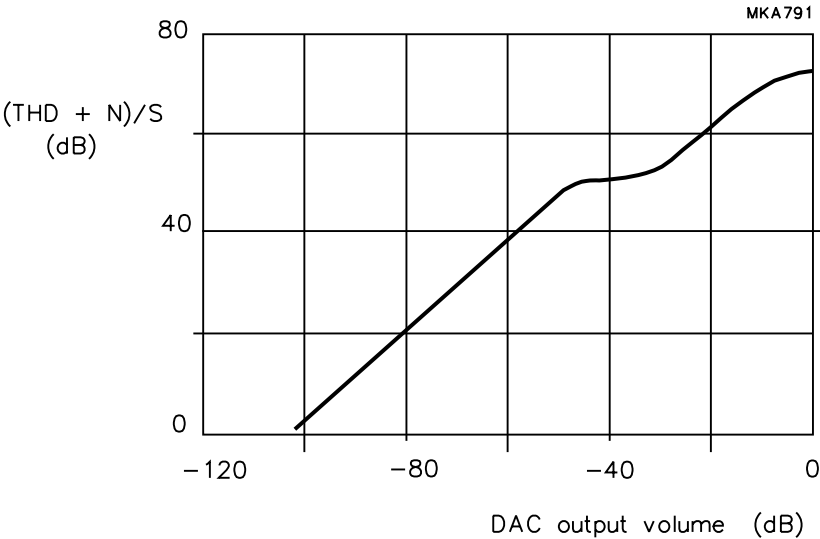

Fig.4 Total harmonic distortion plus noise-to-signal ratio as a function of output volume.
The word select input (pin 26) is connected to the word select line of the I²S-bus interface. This interface has a standard I²S-bus specification as described in the Philips “*I²S-bus specification*” (ordering number 9398 332 10011). Figure 4 shows an excerpt of the Philips I²S-bus specification interface report with respect to the general timing and format of the I²S-bus. WS logic 0 means left channel word, logic 1 means right channel word.
- MCLK (see Fig.4), which is a jitter free (maximum 30 ns jitter) external clock at any multiple integer from 45 to 128 times $4f_{as}$ (4 times the frequency of WS) of the I²S-bus input, thus for a sample frequency of 38 kHz this clock frequency will range from 6.840 MHz to 19.456 MHz in multiples of 152 kHz.